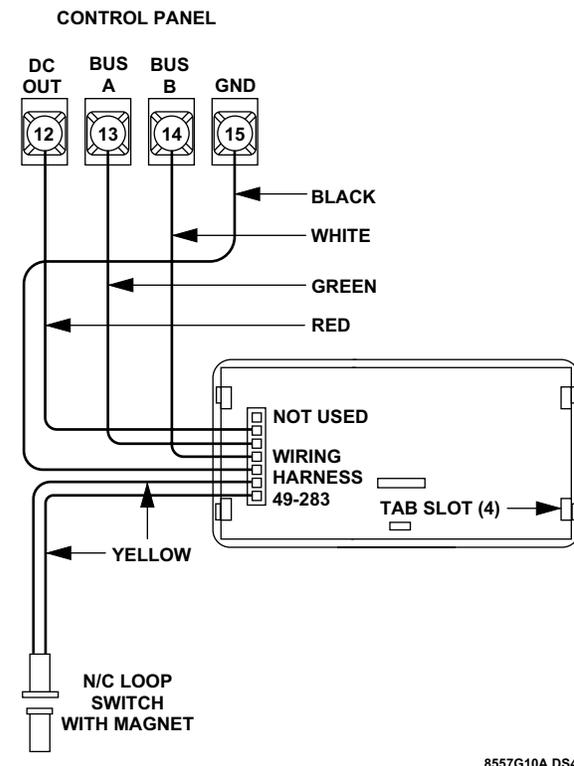

Figure 2. Alphanumeric Touchpad Wiring
3. Connect the wires to the panel terminals and wiring harness as shown in Figure 2.
Connect the hardwire sensor to the yellow wires on the wiring harness as shown in Figure 2.